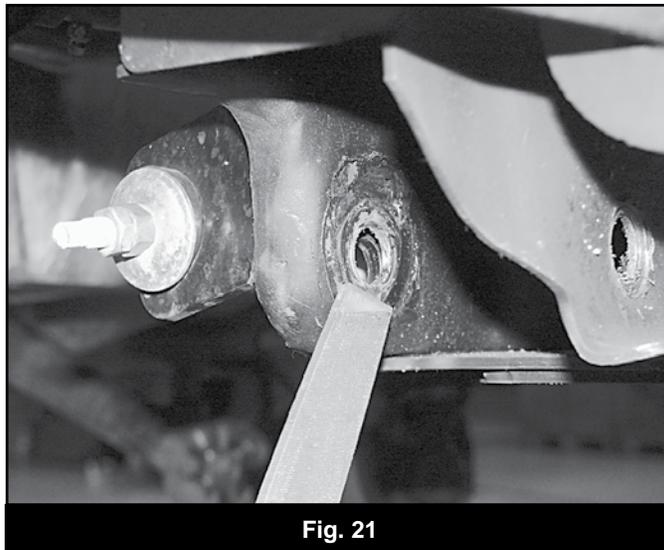

Fig. 21
41. Inspect the inside factory control arm mounting holes. There will be a sharp lip left from the original control arm/hardware. Use a file or rotary grinder to remove the sharp lip left from the control arms (Fig 21). This will allow the new cross members to be installed easily.